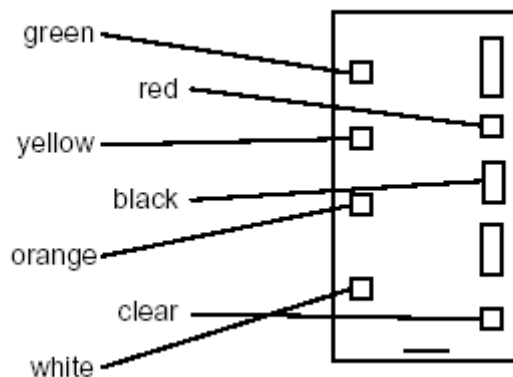

Figure 4-4. SpO₂ jack, wire side.
Note: Each wire will terminate at a specific pin position on the SpO₂ jack. Therefore, reconfirm that all connections are correct by pinning out your work. Use Figure 4-4 to verify connections.
24. Connect wires to locations as shown in Figure 4-4.